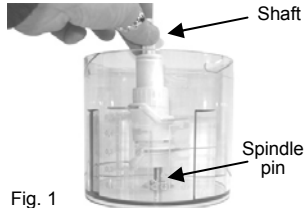

Fig. 1
3. Holding the lower blade by the shaft, place it over the spindle pin of the chopping bowl. (Fig. 1)
5. Remove the blade assembly by its shaft before you empty the contents of the chopping bowl. (See Fig. 1)